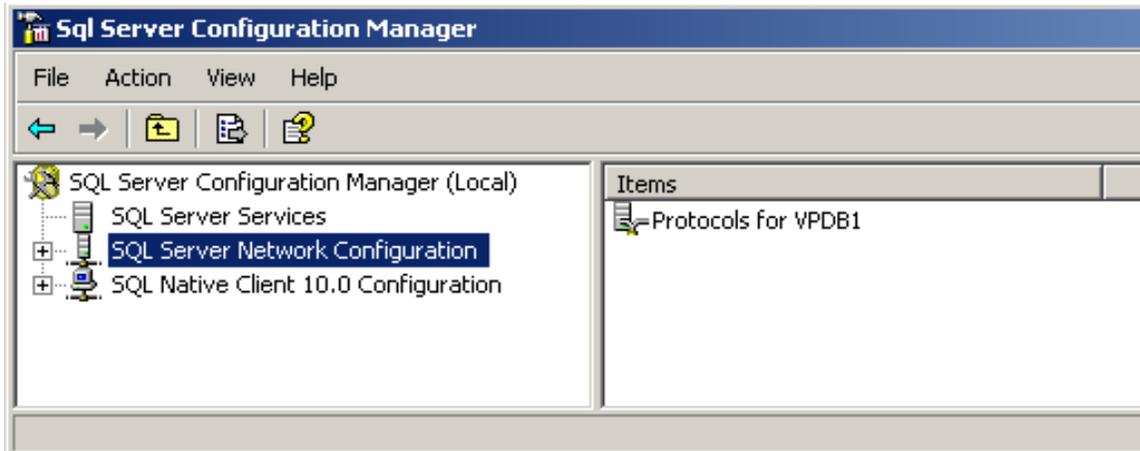

Figure 35
- o Click on **SQL Server Network Configuration (Figure 35)**.